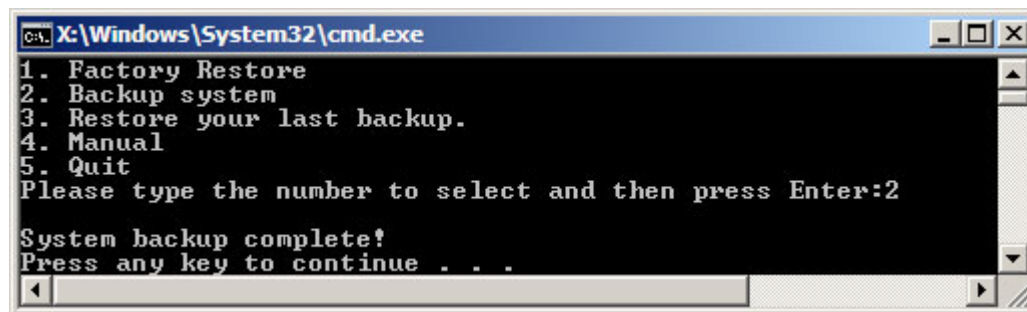

Figure A-30: System Backup Complete Window
Step 6: The screen is shown as in **Figure A-30** when system backup is completed.